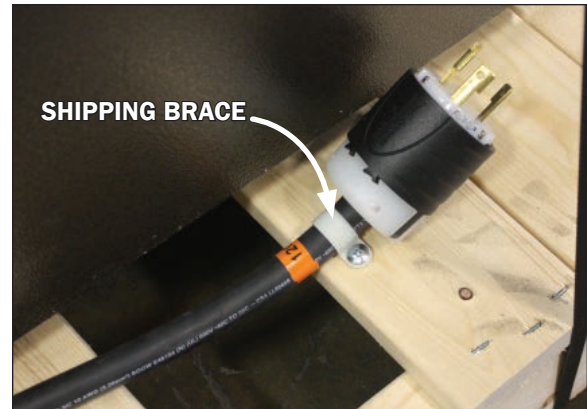

Fig. 1 Power cord shipping brace
4. The power cord shipping brace (Fig. 1) can be removed with a screw gun. As for case shipping braces, the same would be applied with sled runner or caster construction. If the braces are metal brackets or locks they can be removed with a screw gun. If they are wood blocks they can be removed with a J-bar. **Note: Shipping braces are normally located at each corner of the case. Some case models with casters will use bracing that surrounds the casters entirely and some will use braces that affix to the toe-kicks at each corner. (Shipping braces used vary and are based on case design for best transport.)**
1. After the main power cord (Fig. 1) located at the base panel or toekick cover of the case is plugged in and the power switch flipped to ON the case should begin normal operations.